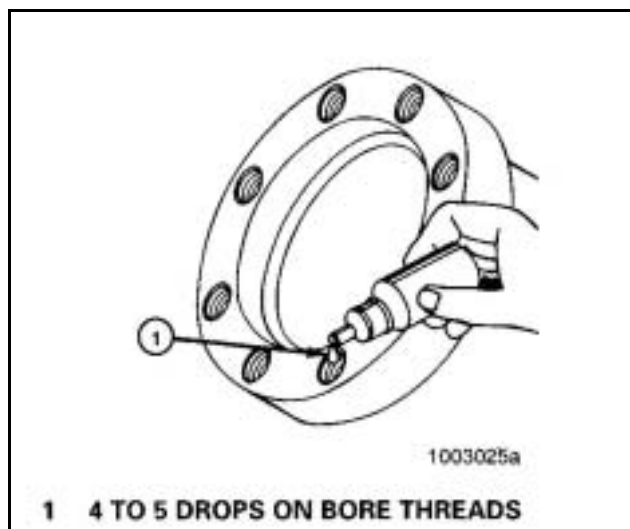

Figure 43
2. Apply four or five drops of Meritor Liquid Adhesive, Loctite® 680 or equivalent inside each threaded hole or bore ONLY. Make sure the adhesive is applied inside to the bore threads. **Figure 43.**